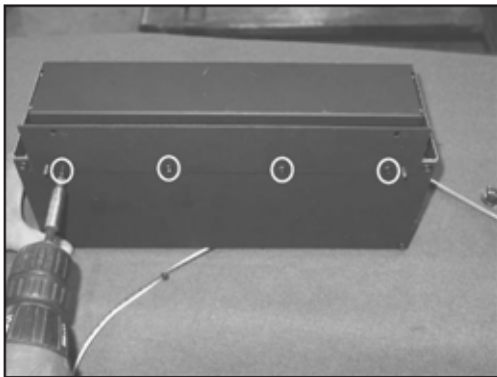

Figure 1
2. Install mounting bracket #1 to the blower housing using four screws. **Figure 1.**